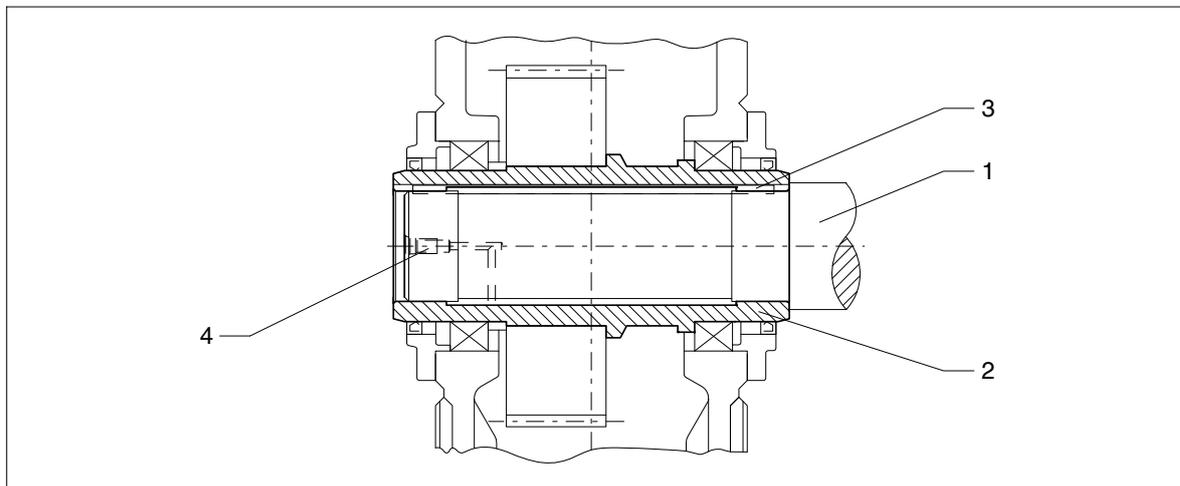

Fig. 32: Hollow shaft with parallel keyway, preparation
To facilitate demounting (see also item 6.5.3.), we recommend providing a connection for pressure oil on the end of the driven machine shaft. For this a hole must be drilled through to the hollow shaft bore (see figure 32). This connection may also be used for supplying rust-releasing agent.
- If frictional corrosion has occurred on the seating surfaces, rust-releasing agent may be used in order to facilitate forcing off the gear unit. The rust releaser can be injected through the pressure-oil connection (see figure 32), e.g. using a pump.